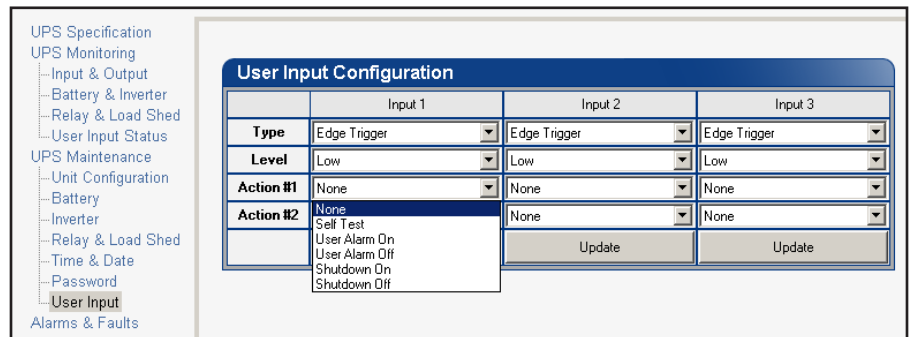

Figure 7.40 – User Input Configuration: Setting an Action
5. Select **User Alarm On** from the **Action #1** drop down menu. (Figure 7.40)